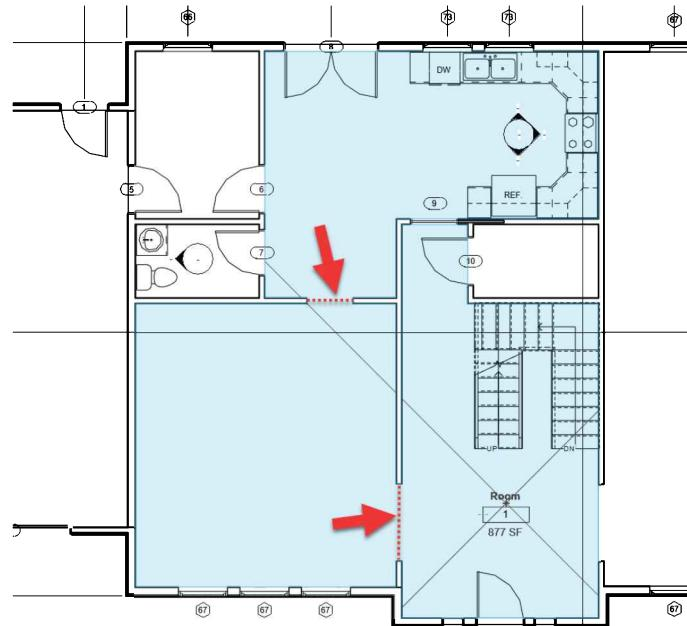

FIGURE 13-1.2A Room tags – First Floor
The wall openings may let the Room element extend into adjacent rooms as shown in Figure 13-1.2a below. Next, you will correct this problem with a special line used to contain rooms when there is no wall, or at an opening in a wall.
- Add **Room Separator** lines within each opening pointed out below (Figure 13-1.2a).